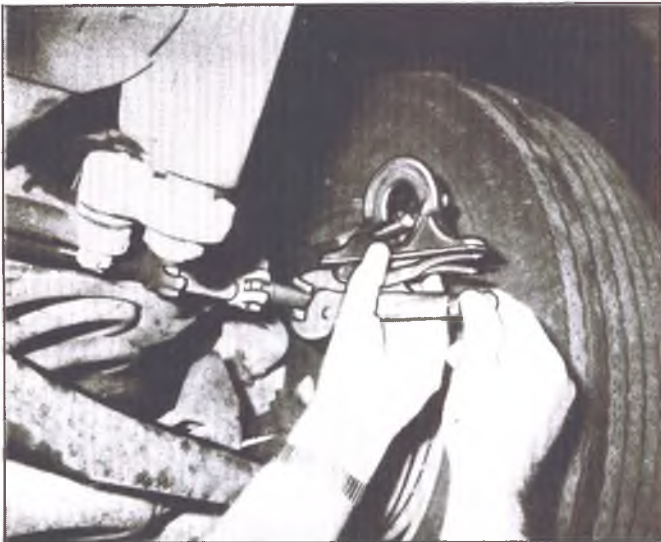

Fig. 104A—Tie Rod Inspection
- f. Check each assembly to be sure that a total travel of at least 35° can be obtained using a bubble protractor and a pair of vise grips (Fig. 104A).
- c. Rotate outer tie rod end counterclockwise (up) to maximum position. Attach bevel protractor as shown in Figure 104A. Center protractor bubble indicator and record reading.